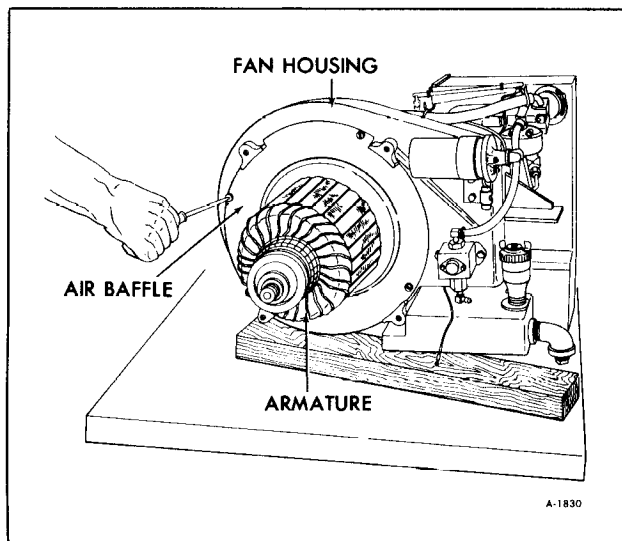
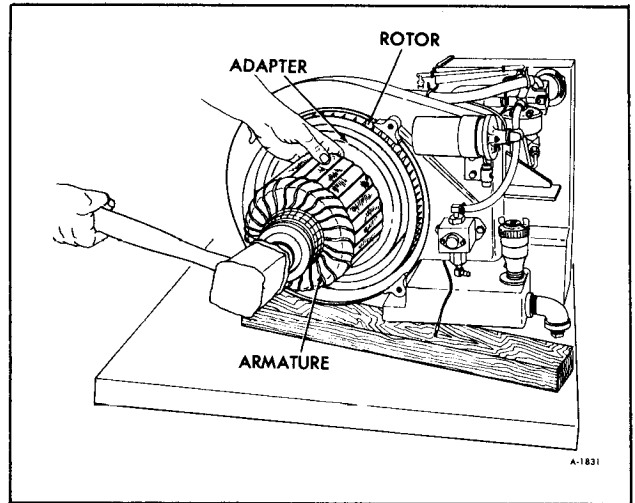

Figure 4–Removing Air Baffle From Fan Housing
Figure 5–Separating Armature From Crankshaft
4. Remove the air baffle from the fan housing, (figure 4) turn the thru bolt out about 2-3 turns then bump the end of the thru bolt (with soft head hammer) until the armature separates from the taper on the engine crankshat (figure 5). Do not separate the rotor and adapter from the armature unless it is necessary to replace either of these items.